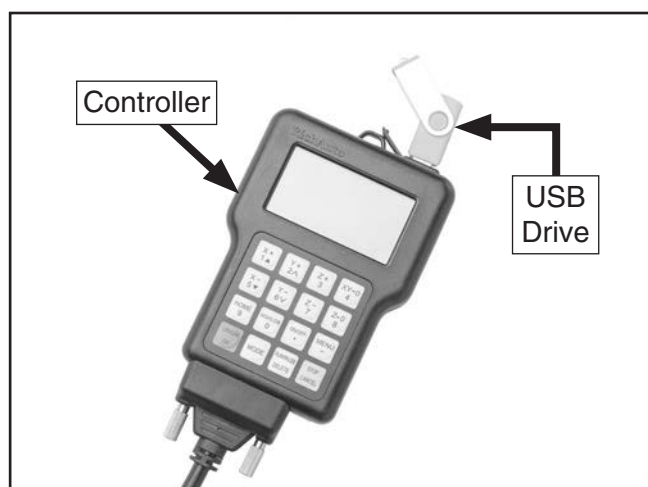

Figure 26. USB drive connected to controller.
2. Insert USB drive loaded with G-code into controller (see **Figure 26**).